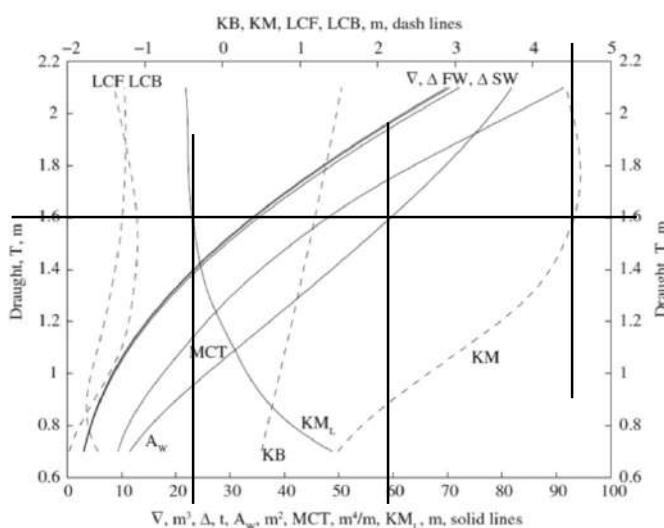

Figure 4.2 Hydrostatic curves of ship Lido 9
- Use Fig. 4.2 to find  $\overline{KM}_L$  (at  $T = 1.6$  m).  $\overline{KM}_L \cong 22.5$  m. Use that and  $\overline{KG}$  to draw  $\overline{GM}_L$  vs Draft.